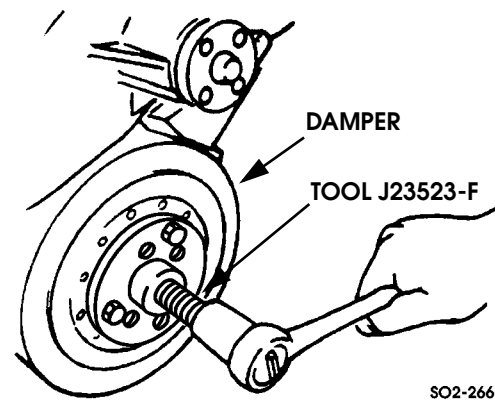

Figure 2-81: Torsional Damper Removal
5. Loosen torsional damper with tool J23523-F (Figure 2-81).